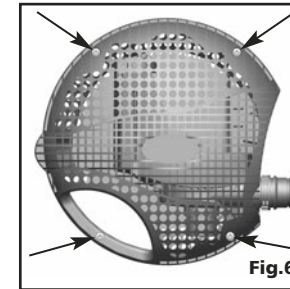

Fig.6
#### Opening and Closing the Pump Cage (see Fig. 6)
- Remove the pump cage from the pond, unlock the pivot pin fasteners (Fig. 6) and remove the upper half of the cage. Clean all components with streaming water from a garden hose. Reassemble all components with care